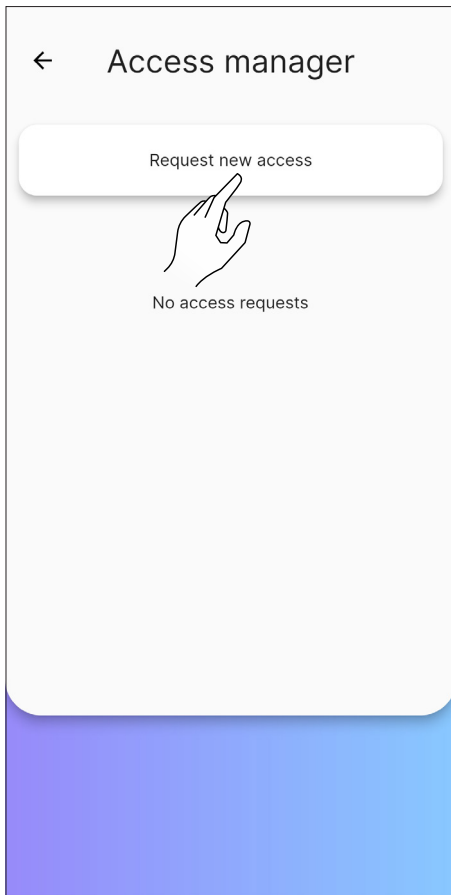

Fig. 8.28
- “Request new access” (Fig. 8.28)